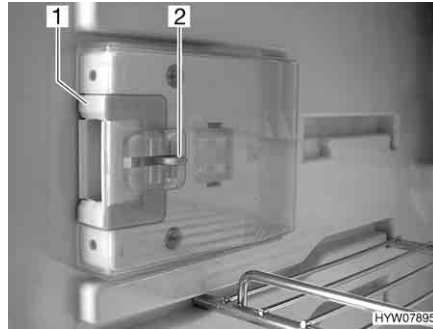
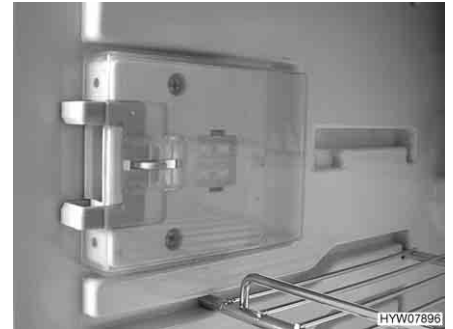

Fig. 233 Locking device in normal position
Fig. 234 Locking device in ventilation position
- Press down the unlocking device (Fig. 233,2).
- Push locking device (Fig. 233,1) forwards (Fig. 234).